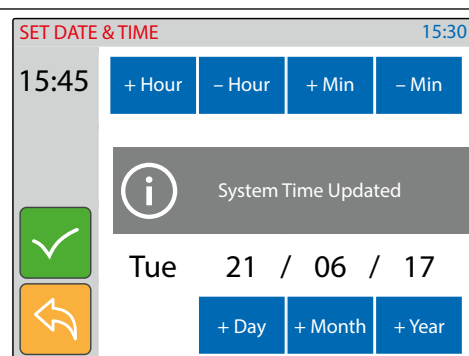

Fig. 14 Save the value set
- Operate the buttons to adjust the date & time required then tap on the tick button to confirm (**Fig. 14**).
- A notice will inform that the value is saved (**Fig. 14**).